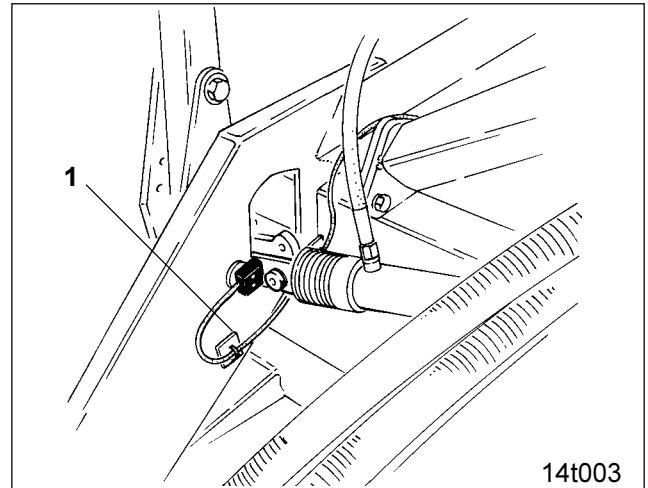

Fig. 26.5
- on implements with track markers from the sensors (Fig. 26.5/1) when changing the track marker